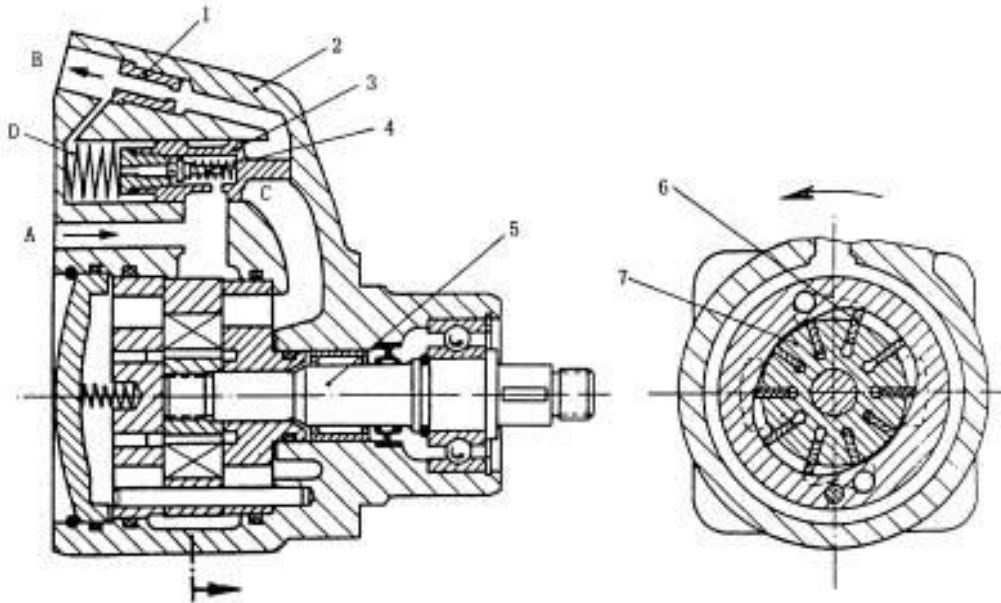

Fig. 11-10 Steering booster pump structure diagram
The steer booster pump is installed on the timing gear of the diesel engine. The timing gear drives the booster pump drive gear to rotate. Model VOP306_A168/160H1 vane pump of a certain type of booster is shown in Fig. 11-10, with fundamental performance parameters in Table 11-2.
- the relief valve opens for unloading. To ensure the pump output basically constant, flow control mechanism is arranged inside the pump body, composed of throttle 1 and flow control valve 3. In case that the speed of the pump is lower, valve 3 will be kept at the position as shown in Fig. 11-10, at the moment valve 3 closes the oil outlet chamber and the oil inlet chamber. The pump output increases as the pump speed increases, due to the throttling action of throttle 1; pressure difference between the valve 1 front and rear chamber C and D is built up: $\Delta P = P_C - P_D$, and the pressure difference will increase with the pump output increase. When the speed of rotation increases to the preset speed, namely, the pump output reaches to a certainty value, the pressure difference ΔP between the two chambers will overcome the retracing spring's preset force, valve 3 will move to the left under the pressure difference, thus opening the passage of the oil outlet chamber and the inlet chamber; part of the output forms internal recycling; the greater the pump output, the greater the pressure difference ΔP , and the greater the opening of valve 3, the greater the internal unloading flow, thus ensuring the basically constant output.